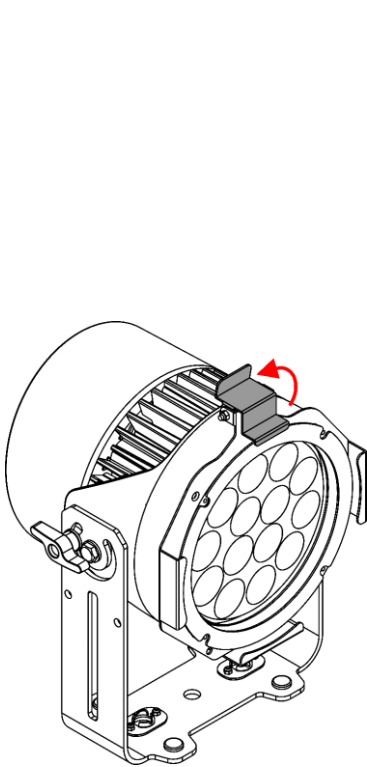

Fig. 12
- 02) Lift the spring-loaded retainer clip of the Accessory Holder and flip it backwards (Fig. 12).